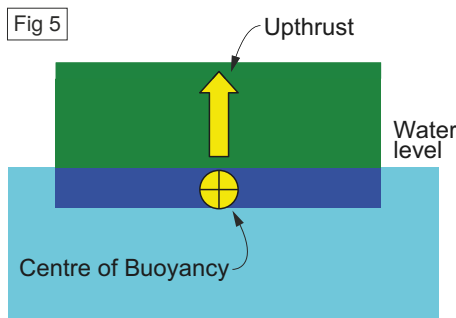
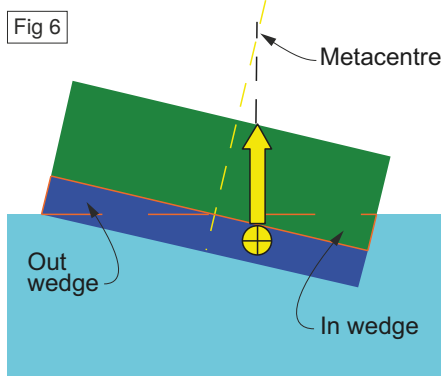

Fig 5
Fig 6
**Figure 5** shows a similar hull section but with much reduced draught. The CB is still in the middle of the underwater section of the hull but is now much nearer the water level, which sounds like it might be bad news. However, if the hull is heeled by the same amount things look quite different (**Figure 6**). The Out wedge has in effect transferred half of the hull volume on one side of the middle-line across to the other side. The effect of this transference is much greater than in the deeper draught section, compared with Figure 2 where the in and out wedges only make up a small proportion of the submerged hull. The result is that the CB will move much further from the middle-line. When the upthrust force is projected upwards, it will meet the middle-line at a much higher point, the end result – unless we really pile weight on top of the model – being a bigger Metacentric Height.